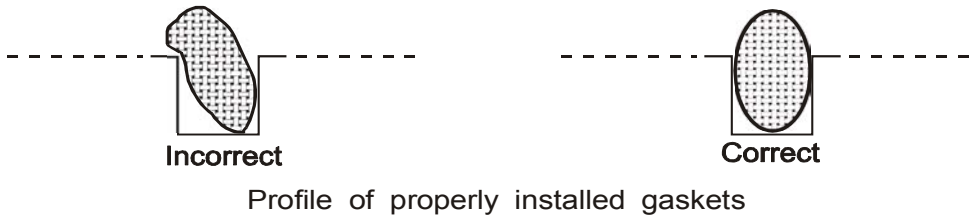

Figure 34. Gasket Installation (I330M/I311M)
5. Install the two pre-cut (long) RF gaskets into the grooves for the end reflectors. Insert one end flush with the top of the mounting surfaces (Figure 34). Working toward the other end of the groove, press the gasket strip down firmly with the thumbnail so that it rests at the bottom of the groove.